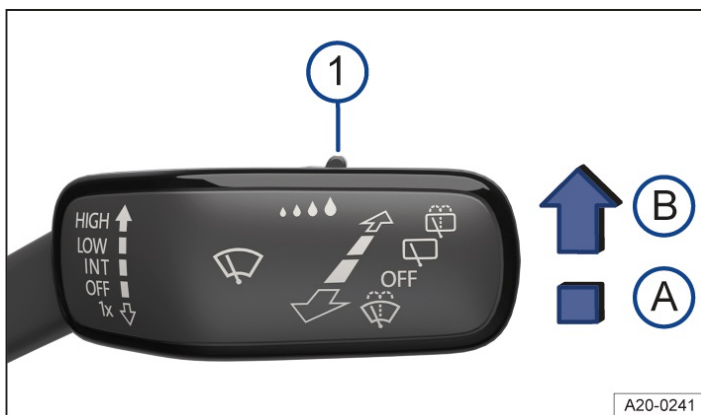

Fig. 1 On the right side of the steering column: windshield wiper lever.
1. Press the lever into the desired position → fig. 1.
→ fig. 1 ①, → ⚠.